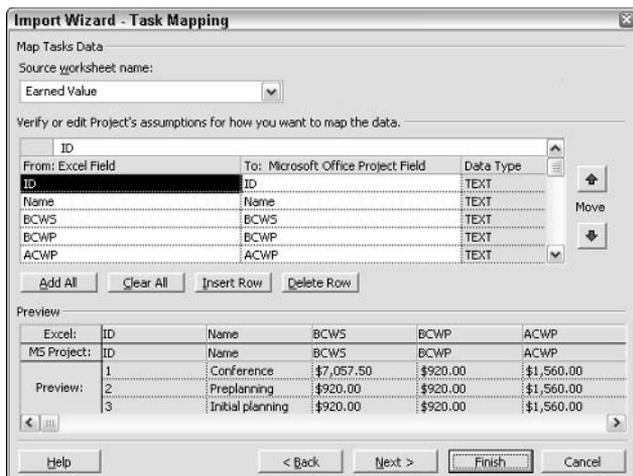

Figure 26-25: The Task Mapping dialog box shows the fields that Project expects to import from your workbook.
8. Click Next. If necessary, make changes to the Task Mapping dialog box, as shown in Figure 26-25. Select the Source worksheet name; Project attempts to resolve the column names in the worksheet with Project fields. Look for fields that have “(not mapped)” in the To: Microsoft Office Project Field. Type in the Project field name or select it from the list that appears when you click in the To: Microsoft Office Project Field. You should also verify the mapping of all fields the first time you use a new Map. If you used Name in Excel as the column title, you will get unexpected results, because Project uses Resource Name and Task Name, but not Name.